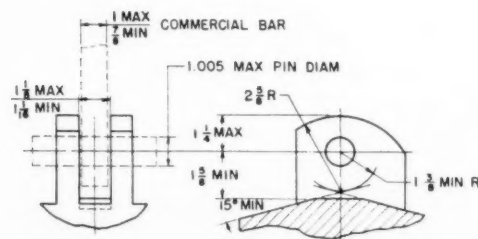

Fig. 1 Yoke clearances (anchor end) for 8-in-stroke hydraulic cylinder
- 9 *Depth of Throat.* The anchor end of the cylinder shall provide the clearance shown in Fig. 1. This affords clearance for a 1 x 2-1/2-in bar through a 30-deg included angle, equally divided, and a 1 x 3-in bar in a perpendicular position.